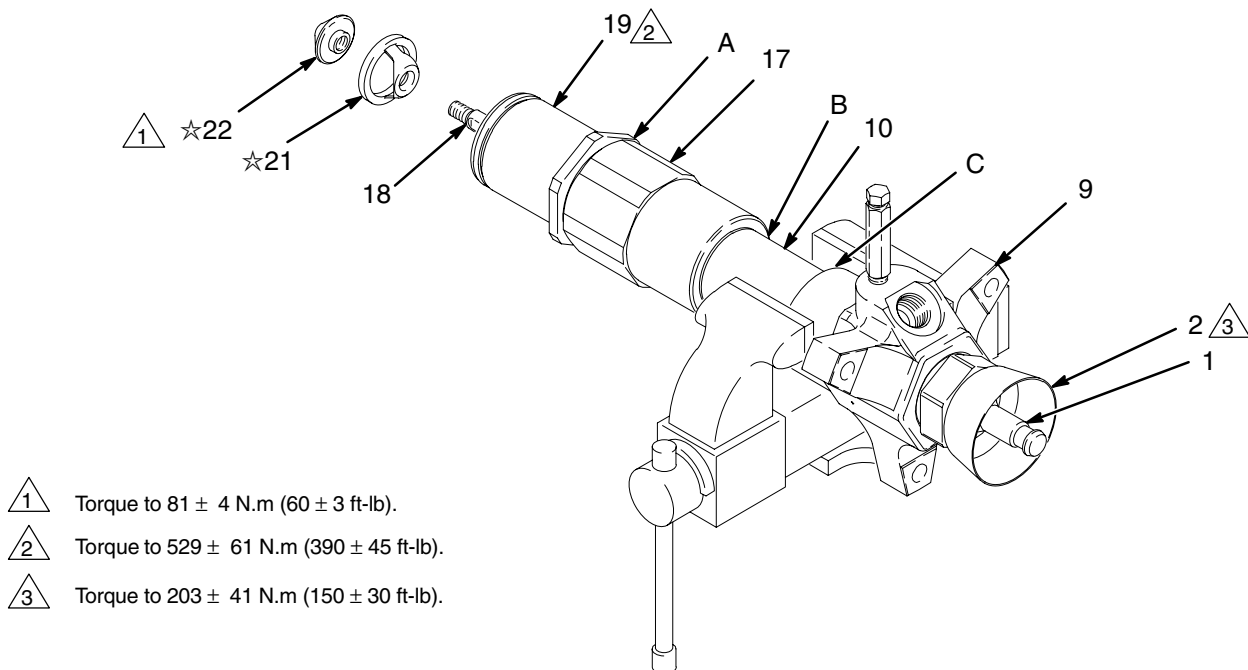

Fig. 4
3. Hold the flats of the priming piston rod (18) with an adjustable wrench, and use a second wrench to unscrew the priming piston seat (22) from the rod. Slide the priming piston (21) off the rod. Inspect the inner and outer surfaces of the piston (21) for scoring, wear, or other damage.
4. Slide the priming piston (21☆) onto the rod (18) until it stops. Hold the rod (18) steady with a wrench on the flats, and screw the seat (22☆) onto the rod with another wrench. Torque to 81 ± 4 N.m (60 ± 3 ft-lb). See Fig. 4.
3. Place the pump in a vise, with the outlet housing (9) positioned as shown in Fig. 4 on page 11.
4. Remove the priming piston (21) as explained on page 11.
5. Using a pipe wrench on the hex of the intake cylinder (19), unscrew it from the intake housing (17). The pump may separate at joints A, B, or C.
4. Screw the intake cylinder (19) into the intake housing (17). Using a pipe wrench on the hex of the cylinder (19), torque the cylinder to 522–542 N.m (385–400 ft-lb). This will also torque the intake housing (17) and pump cylinder (10) into the outlet housing (9). See Fig. 4 on page 11.